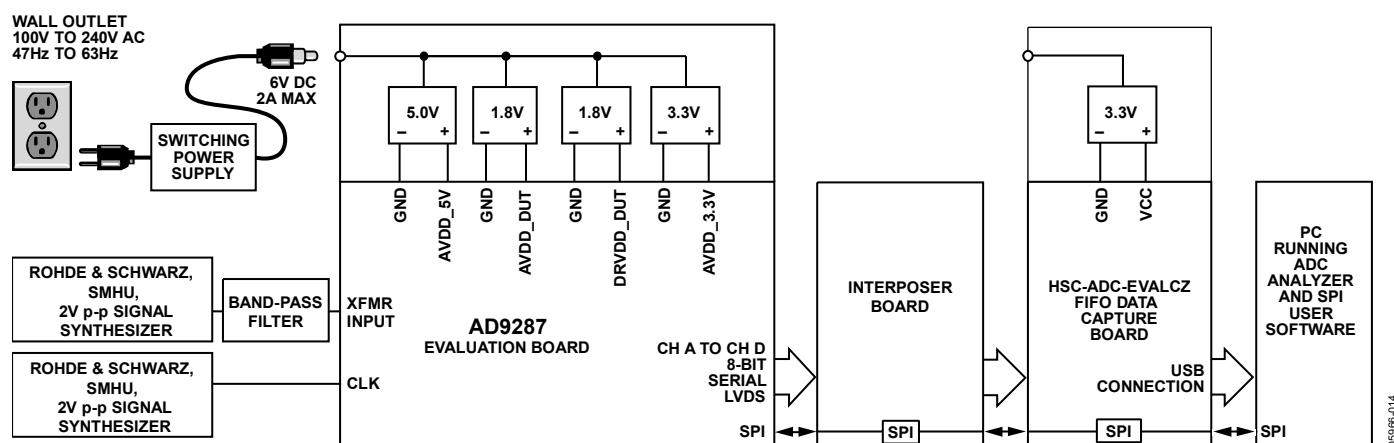
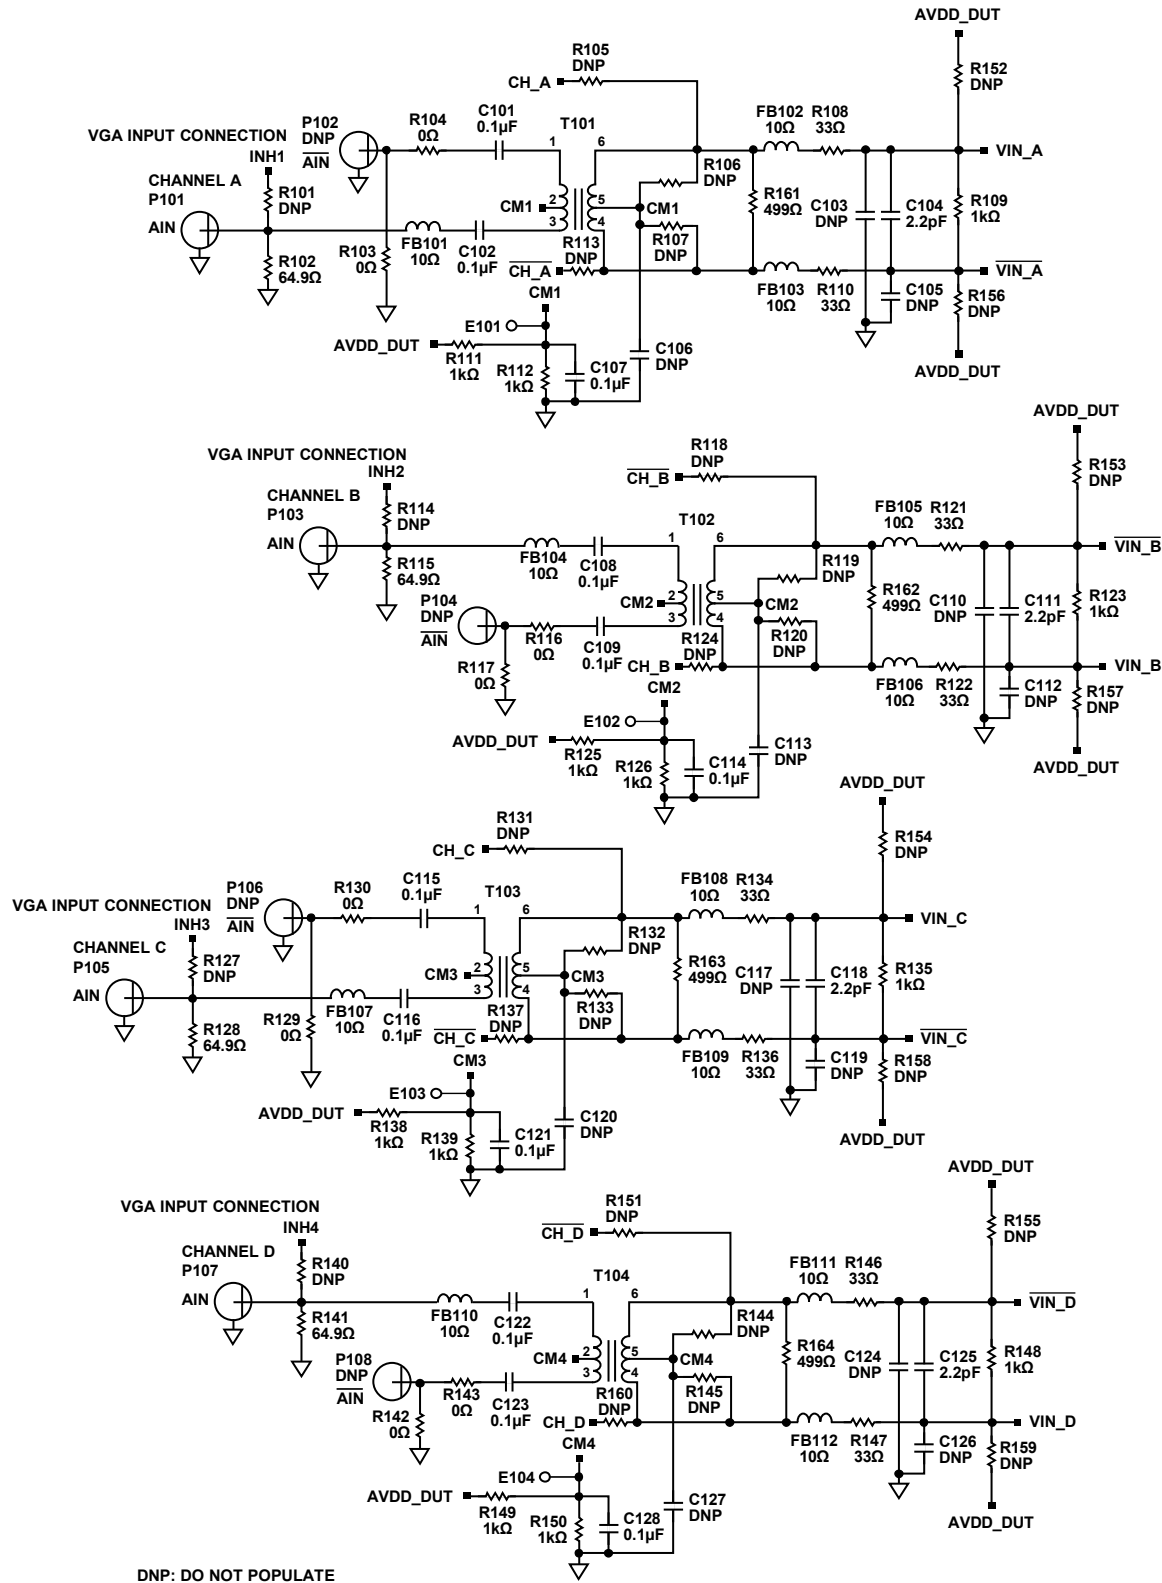
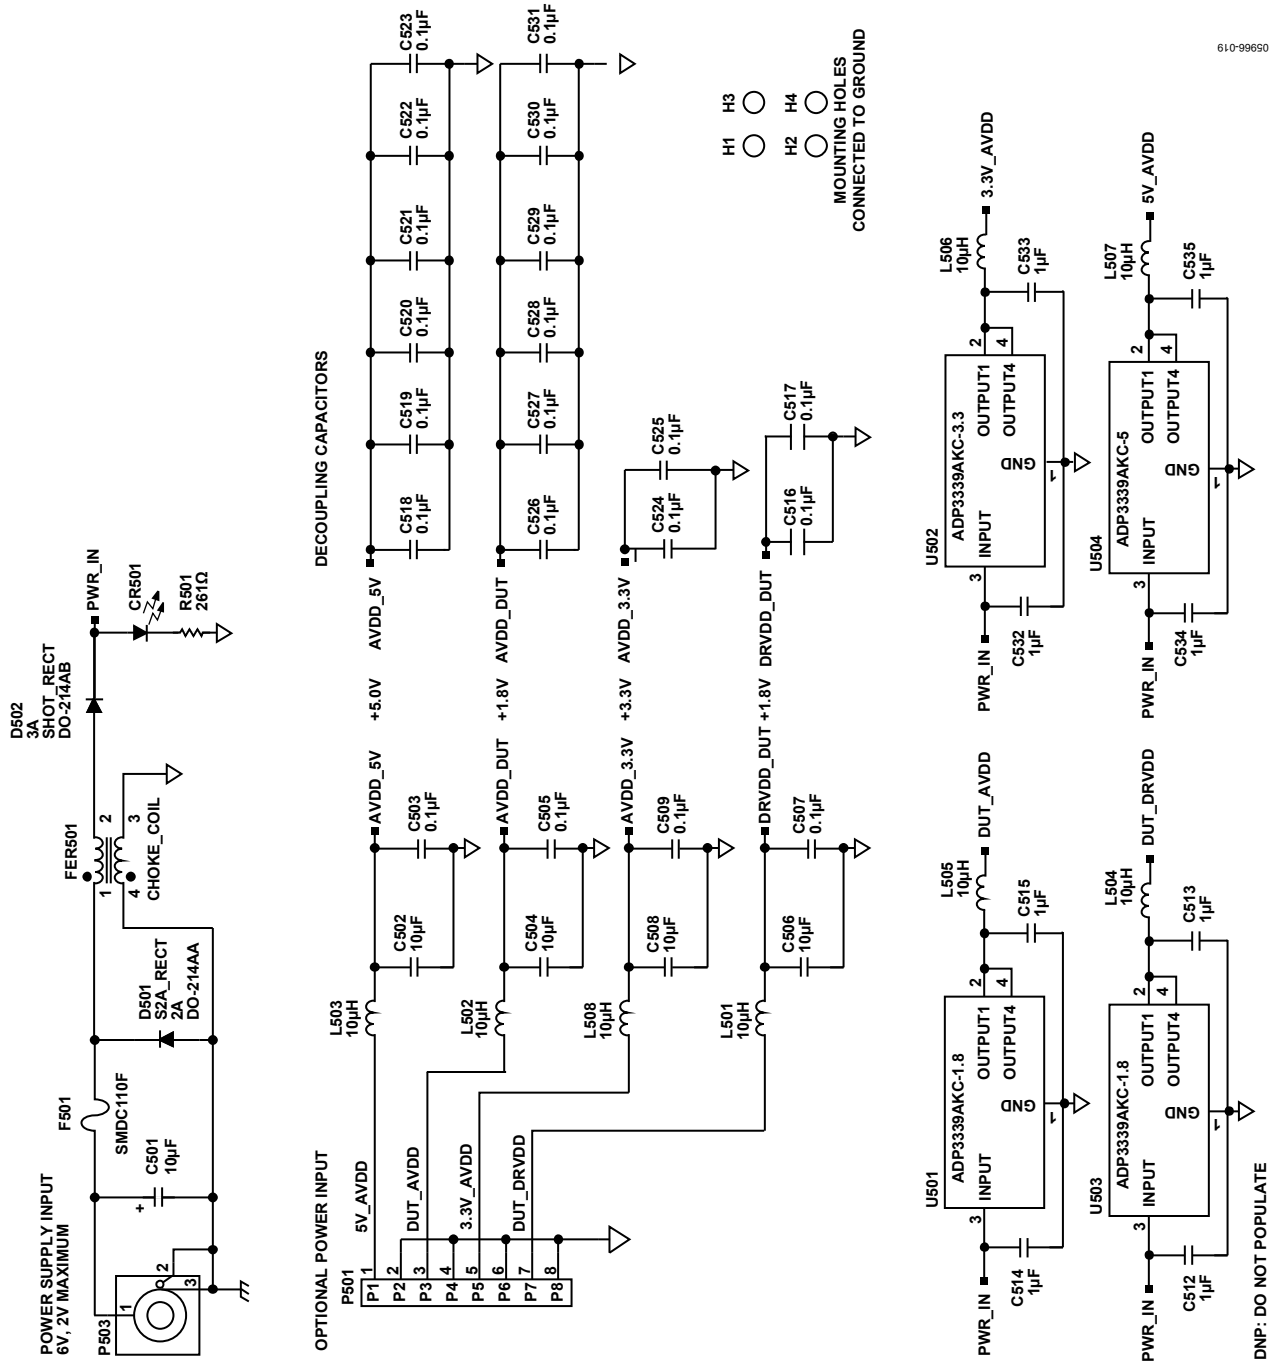

Figure 60. Evaluation Board Connection
Figure 62. Evaluation Board Schematic, DUT Analog Inputs
Figure 66. Evaluation Board Schematic, Power Supply Inputs
The AD9287 evaluation board provides all of the support circuitry required to operate the ADC in its various modes and configurations. The converter can be driven differentially using a transformer (default) or an AD8332 driver. The ADC can also be driven in a single-ended fashion. Separate power pins are provided to isolate the DUT from the drive circuitry of the AD8332. Each input configuration can be selected by changing the connection of various jumpers (see Figure 62 to Figure 66). Figure 60 shows the typical bench characterization setup used to evaluate the ac performance of the AD9287. It is critical that the signal sources used for the analog input and clock have very low phase noise (<1 ps rms jitter) to realize the optimum performance of the converter. Proper filtering of the analog input signal to remove harmonics and lower the integrated or broadband noise at the input is also necessary to achieve the specified noise performance.
See Figure 62 to Figure 70 for the complete schematics and layout diagrams demonstrating the routing and grounding techniques that should be applied at the system level.
- **D + x, D - x:** If an alternative data capture method to the setup shown in Figure 60 is used, optional receiver terminations, R206 to R211, can be installed next to the high speed backplane connector.